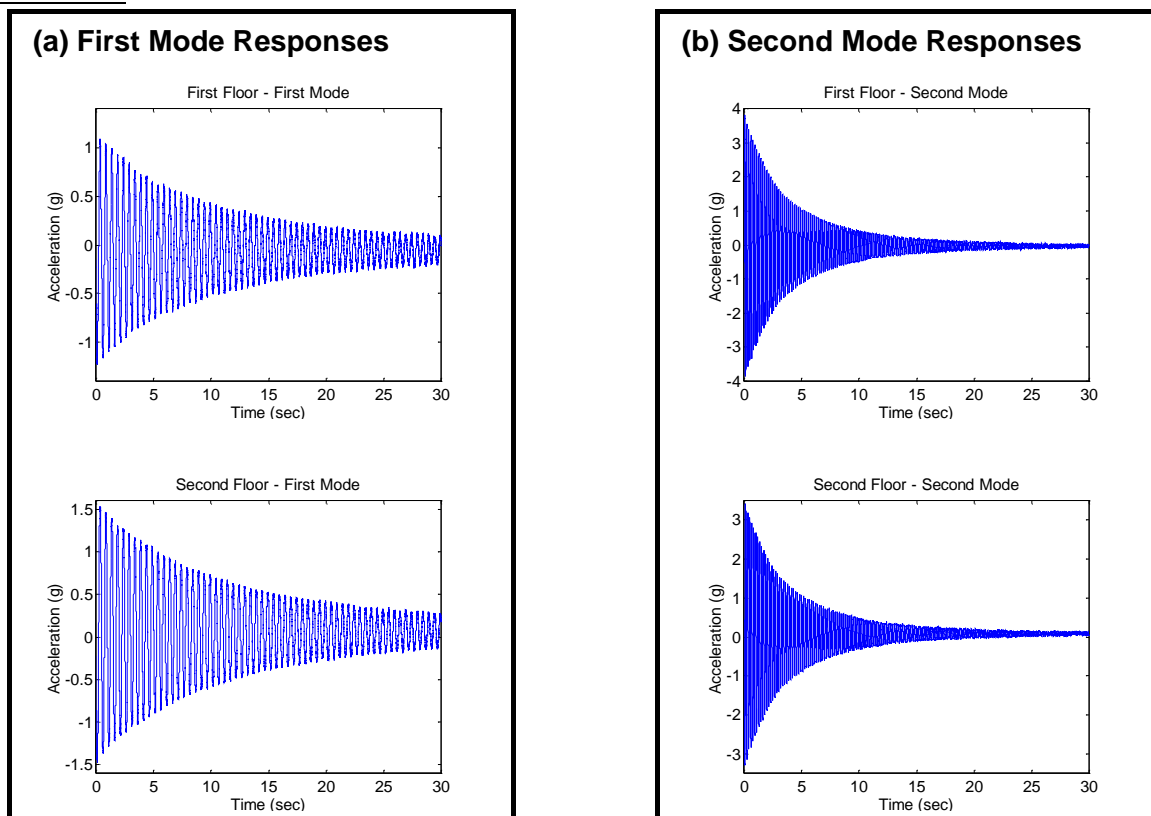

Figure 4. Free response of test structure in (a) Mode 1 and (b) Mode 2.
- Figure 4: Free response of test structure in (a) Mode 1 and (b) Mode 2.